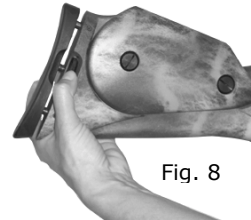

Fig. 8
2. Turn adjustment dial (clockwise extends, counter clockwise to retract) to make adjustments for proper eye relief or comfort level. See Figure 8